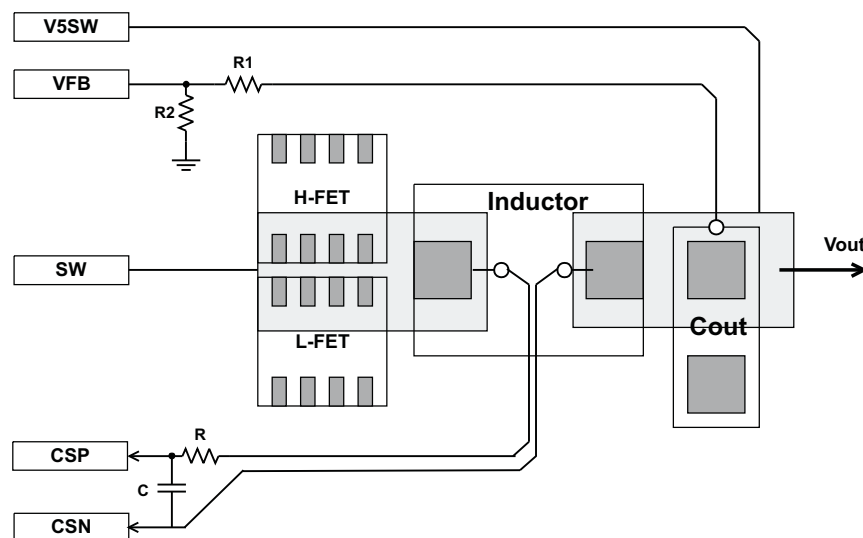

Figure 51. Sensing Trace Routings
- Use separate traces for; see Figure 51